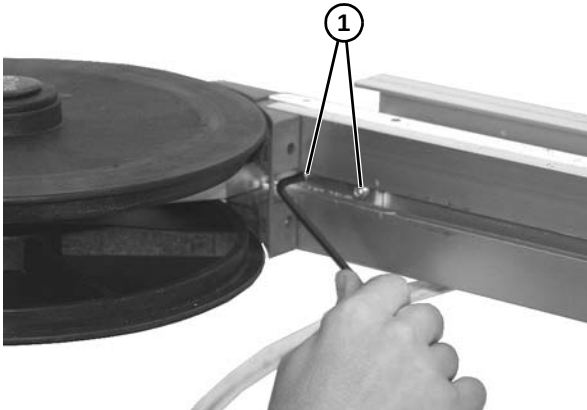

Figure 10
- Secure with two set screws (**Figure 10, item 1**). Tighten all set screws 1/4 turn past contact with frame.